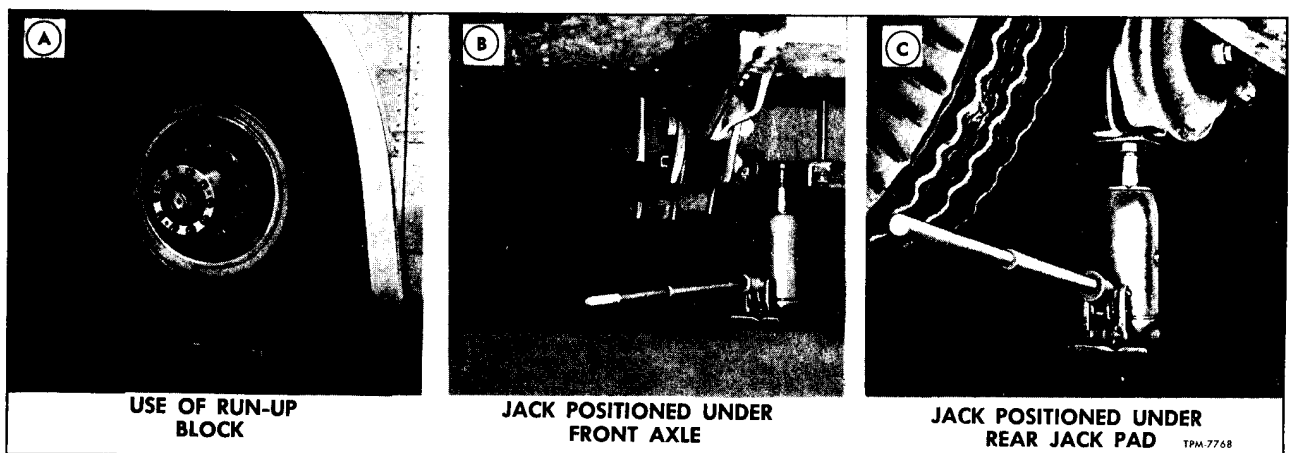

Figure 2—Method of Jacking Up Vehicle
3. Place jack under front axle center as shown in View A, figure 2, and raise vehicle.
2. Drive vehicle onto block to raise outside dual off ground. (View B, figure 2, shows inner dual on run-up block with outer dual removed.)
2. Position jack under suspension support as shown in View C, figure 2.